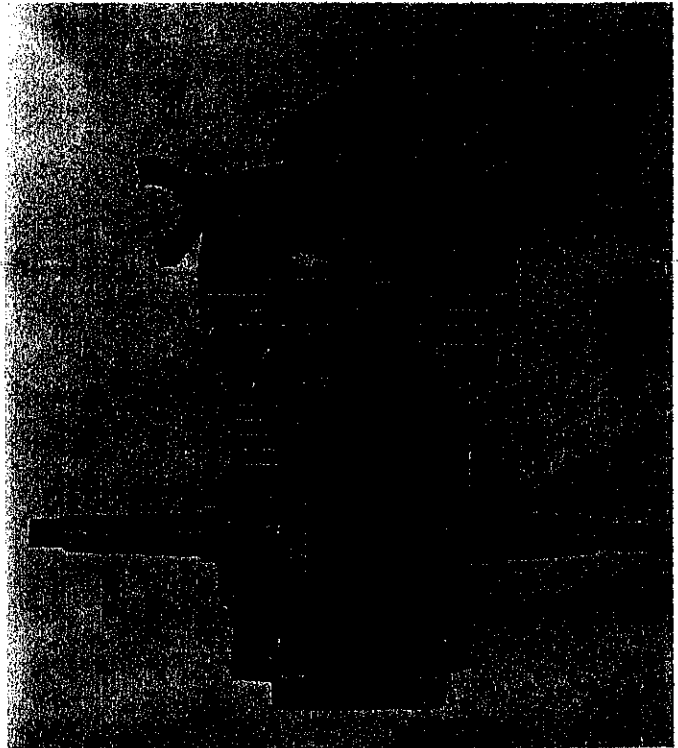

FIGURE 13. ASSEMBLING ROD AND PISTON
25. Heat the piston pin bosses by placing on a light bulb as described in step 14. Hold piston with piston ring anchor pin up and insert the closed end of piston pin into this upper boss. The anchor pin is indicated by the pencil in Fig. 13.
necting rod should also be facing up. See arrow "A", Fig. 13.
29. Assemble piston rings to piston. Install with beveled edge of ring toward top of piston. Align open ends of rings with anchor pin in piston as shown in Fig. 13.
32. Push rod and piston into cylinder, making sure that the match mark "A", Fig. 13, is toward the sloping shoulder of the crankshaft. Turn the rod at the same time so that the rod journal is in line with the crankshaft journal.